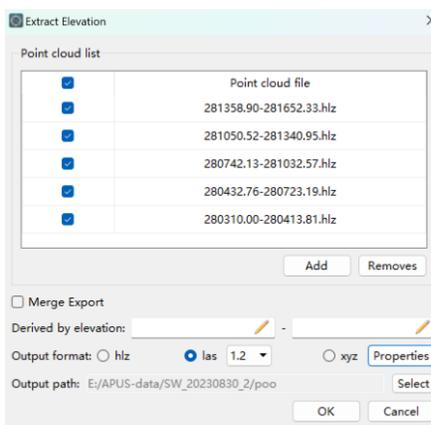

Figure 3-168 Elevation Extraction
- Click <Toolbox>→<Data Process>→<Extract>→< Elevation Export>, a dialog box will pop up (Figure 3-168).